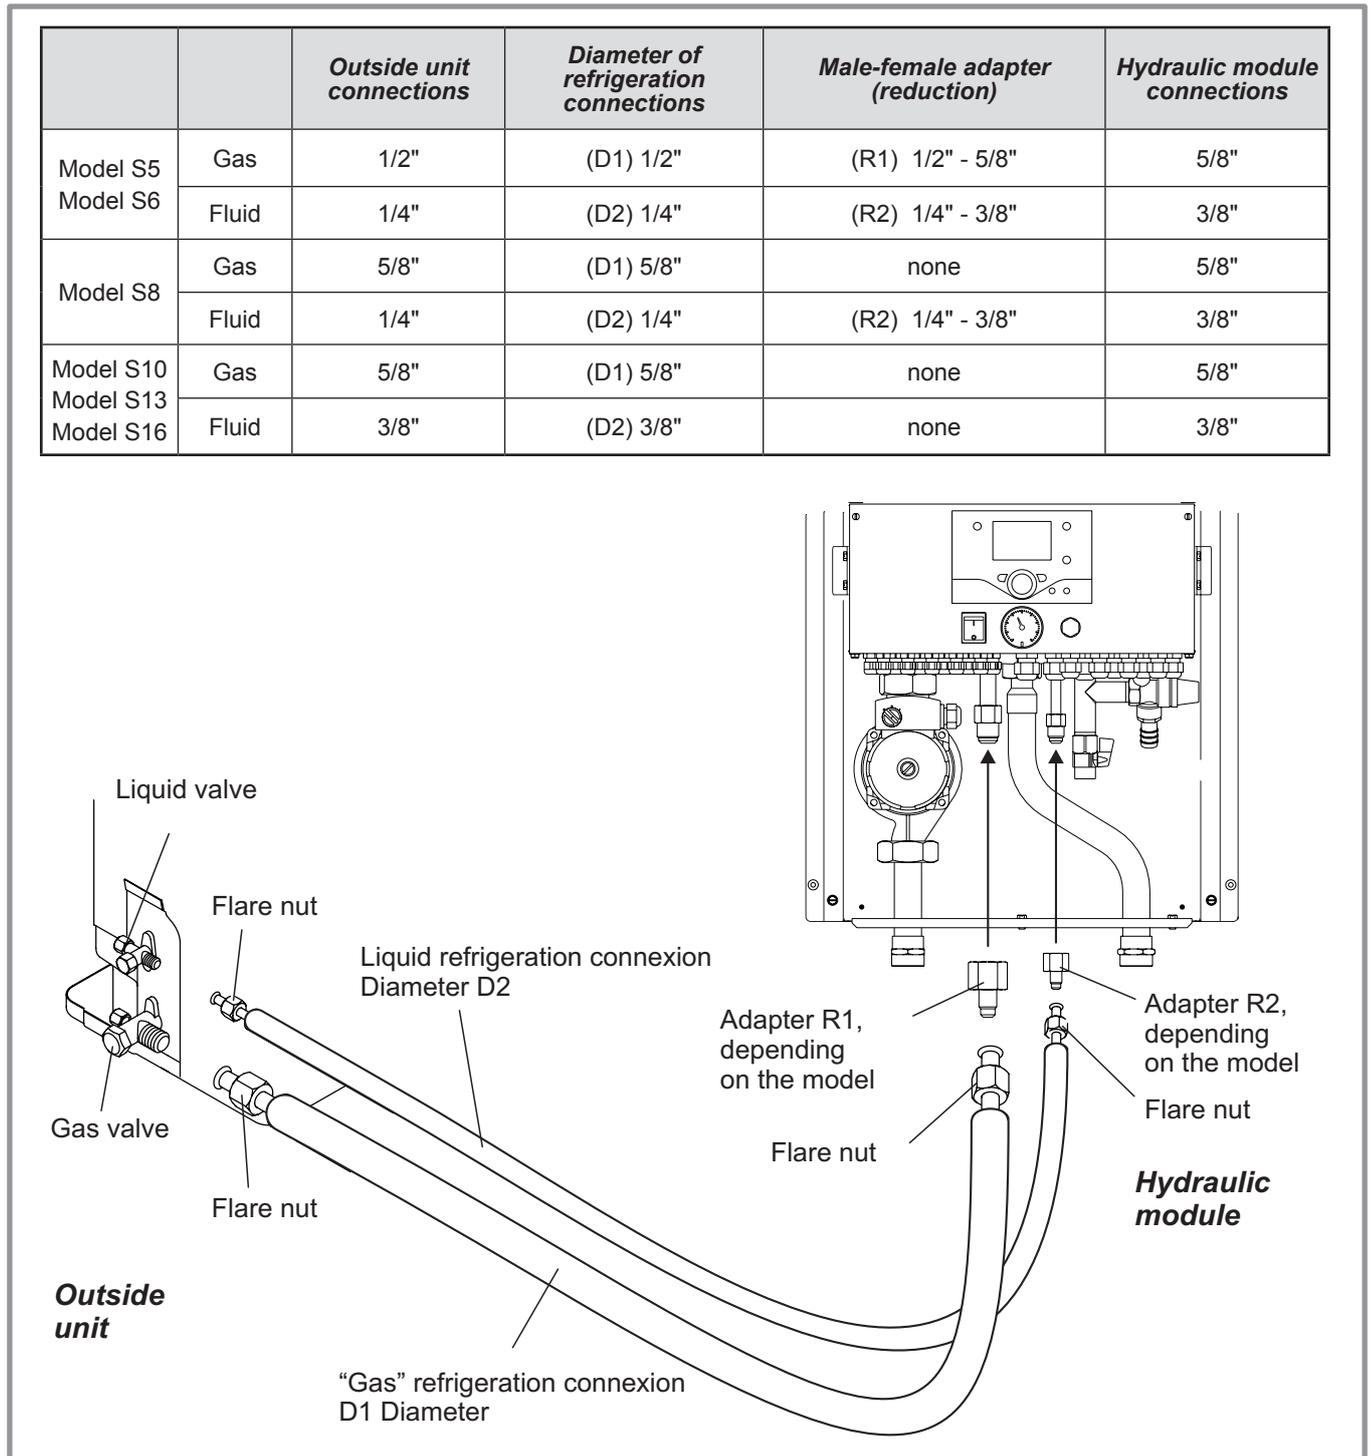

Figure 19 - Connecting the flared connections
- Depending on the case, connect an adapter (reducer) 1/4"- 3/8" or 1/2"- 5/8" (see figure 19).